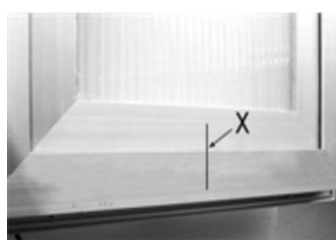

Figure 2
- Use a pencil to draw the center line of the window "X" (Fig.2) or divide it into equal parts when assembling more than one SYNCRO actuator.